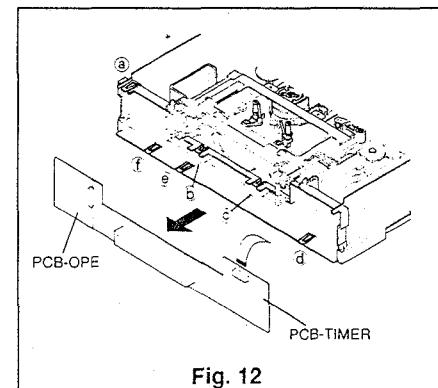

Fig. 12
- ③ Remove six catches (ⓐ~ ⓘ) shown in Fig. 12 to remove the PCB-TIMER OPE.